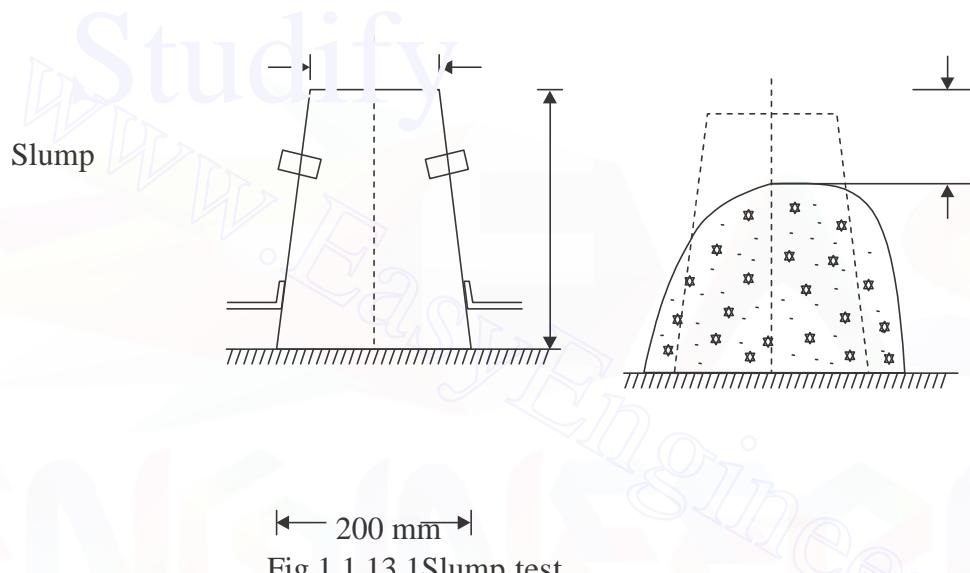

Fig.1.1.13.1 Slump test
**2. Compaction Factor Test:** This is another test to identify the workability of concrete. This test is conducted in the laboratory. The test equipment consists of two hoppers and a cylinder fixed to a stand, the dimensions and the distances between the three vessels being standardized. Vessel A and B are having hinged bottoms whereas cylinder C is having fixed bottom. [Ref. Fig. 1.1.13.2]